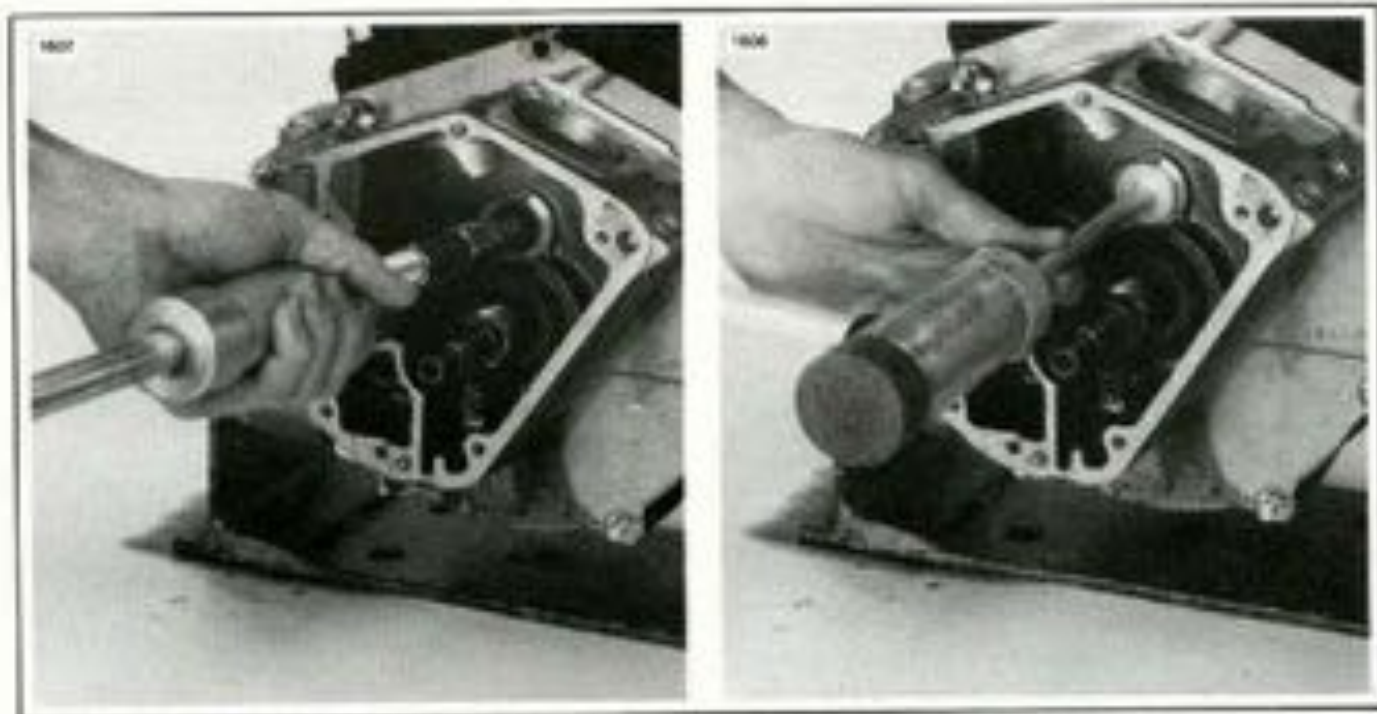

Figure 3-38. Removing and Installing Cam Gear Needle Bearing
2. Inspect oil screen (4) carefully to make sure mesh is open. Fill screen with oil and watch for complete and even flow of oil through screen. Replace plugged or partially plugged screen.
4. Inspect cam gear oil seal (34) in cover to see that lip is in good condition.
6. Inspect needle bearing (35) for wear, broken or gouged bearings. If end of cam shaft shows any appreciable wear (0.003 in. or more), needle bearing is probably worn to a point where replacement of bearing and cam shaft are advisable.
7. Needle bearing can be removed and installed in crankcase without disassembling crankcase using PULLER TOOL, Part No. HD-95760-69, as shown in Figure 3-38. Press needle roller bearing into crankcase with NEEDLE BEARING TOOL, Part No. HD-97272-60, as shown in Figure 3-38. Press from heavier end having the manufacturer's name only. Pressing from opposite end will crush roller race and bind rollers. Pinion shaft main roller bearing may be replaced only when crankcase is disassembled, see DISASSEMBLING CRANKCASE.
3. See Figure 3-34. Make sure that chamfer on oil pump pinion shaft gear (27) faces toward the inside. Tighten pinion gear shaft nut (23) to 36-45 ft-lbs. Make sure that gear shaft pinion spacer (26) has noticeable end play. Breather, cam and pinion gears contain timing marks which must be aligned or matched as shown in Figure 3-38. Rotate gear train and note if it revolves freely. A bind indicates gears are meshed too tightly.